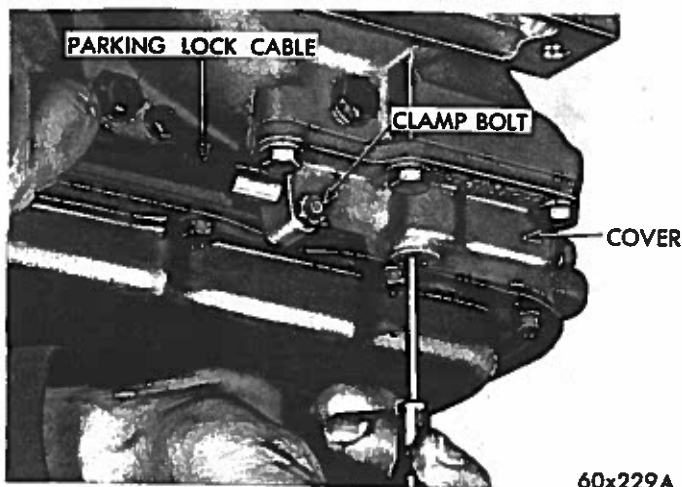

Fig. 12—Removing Parking Lock Cable
(1) Loosen parking lock cable clamp bolt where cable enters housing cover (Fig 12). Remove housing cover lower plug.
(2) With a screw driver inserted through plug opening, push gently against projecting portion of cable lock-spring, then withdraw the lock cable. Do not use pliers or similar tool to withdraw cable from adapter cover as the cable cover might be damaged